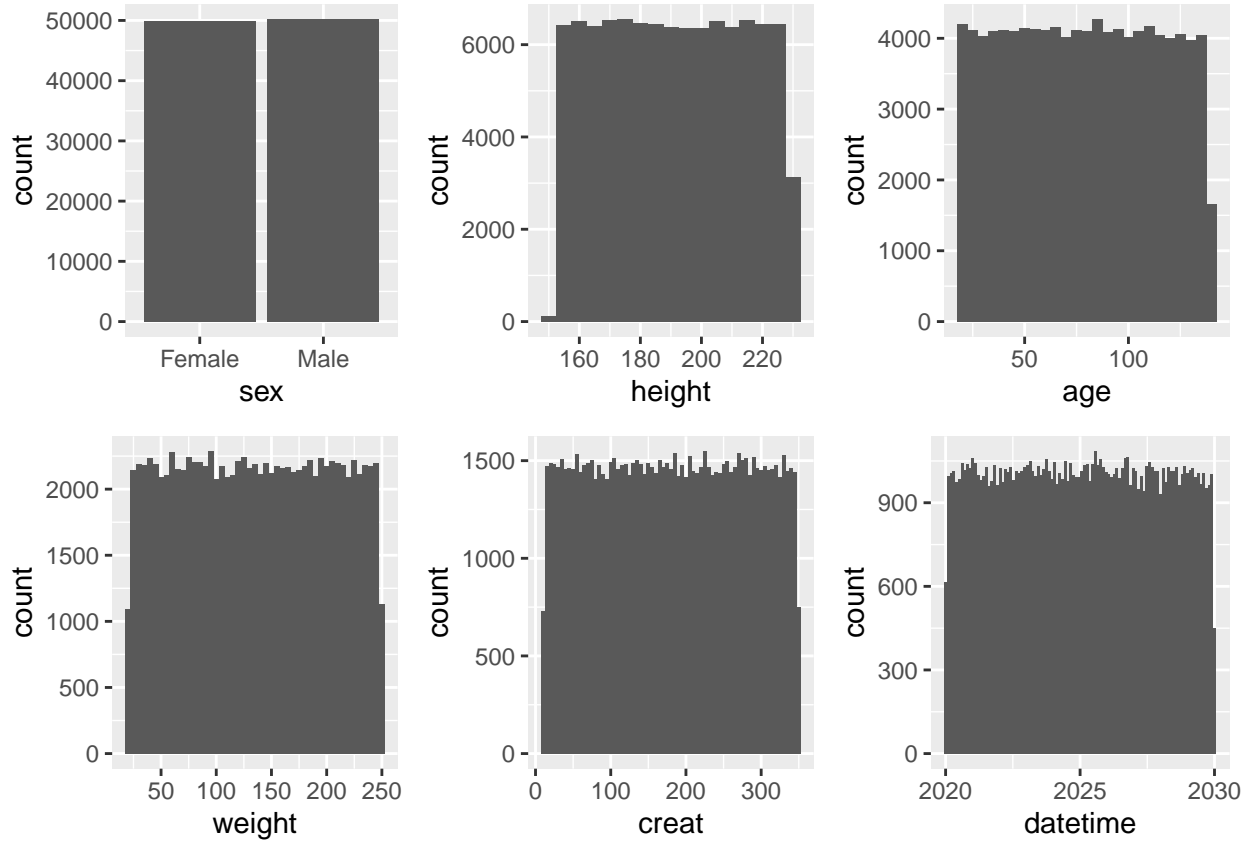

Figure 1: Distribution of simulated variables
- Table 1 shows the minimum and maximum values for each parameter in simulated population and Figure 1 shows their distributions.